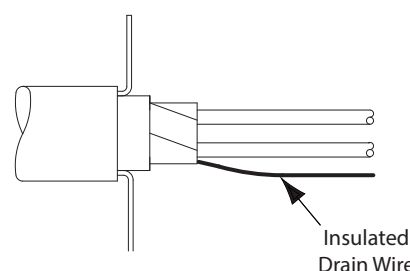

Fig. 5
- 3.4 Spray or paint the drain wires with insulating varnish or paint, then leave to dry (Fig. 5)